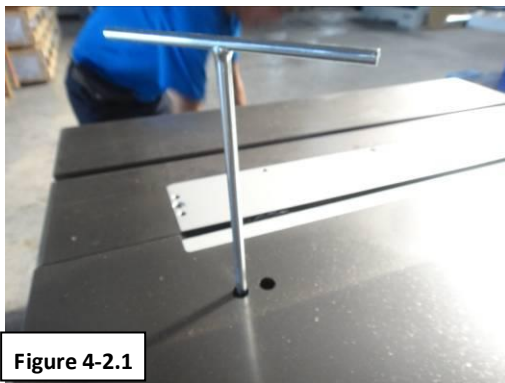

Figure 4-2.1
Insert the T-wrench as Fig. 4-2.1 and turn it with 2 hands.
2. Tilt the motor unit 45° and move to the lowest position by turning the adjusting wheels (Fig. 4-2.1&2)..